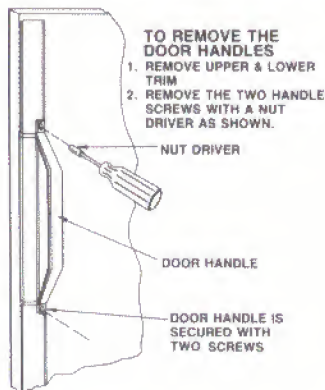

FIGURE 2
2. Remove the upper and lower door handle screws. See Figure 2.